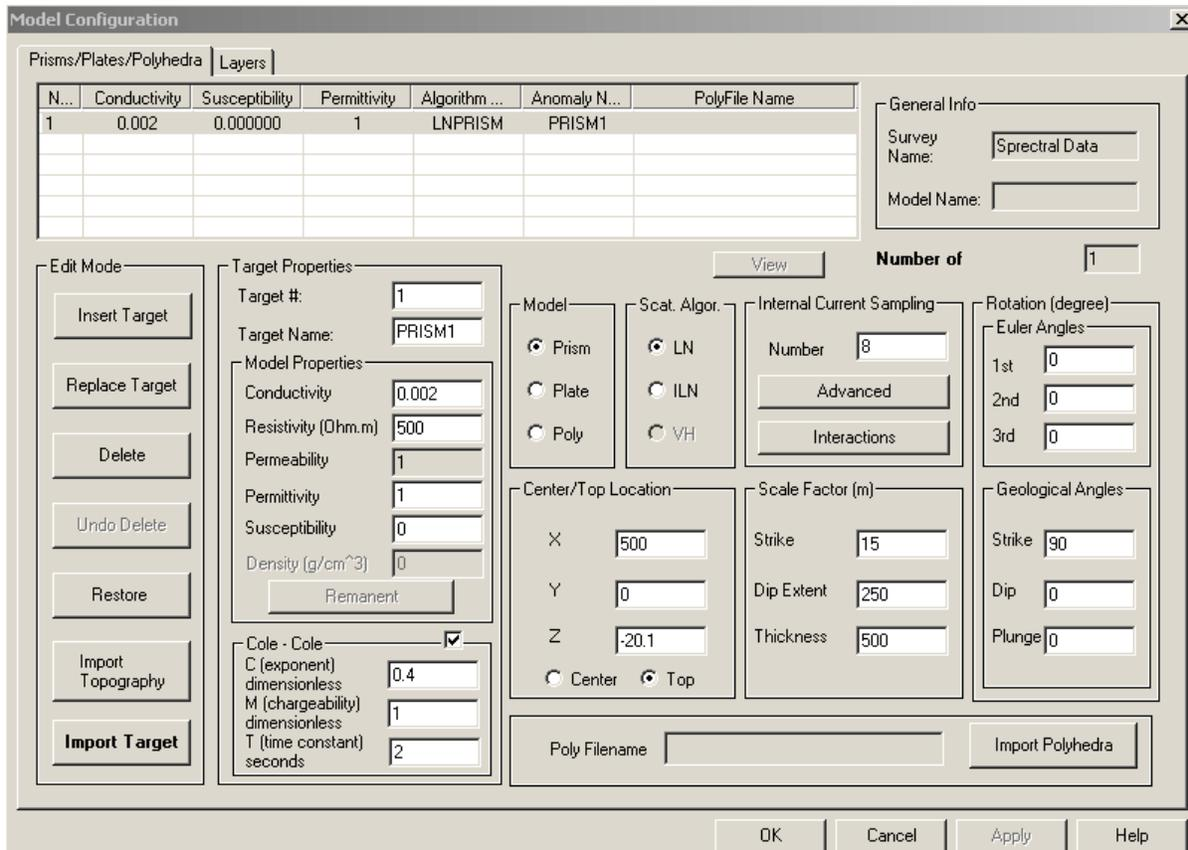

Fig. 8
- Click **Insert Target** in the **Edit Mode** section. Your target will be added to the *List of Targets*, the table in the upper left-hand corner of the tab, Fig. 8.
- Click the **Import Target** button in the bottom of the **Edit Mode** section, Fig. 8. The **Import Model** dialog appears
As you return to the **Prisms/Plates/Polyhedra** tab, Fig. 8, you find the imported model added to the *List of Targets*.
This will return you to the **Prisms/Plates/Polyhedra** tab, Fig. 8. In the **Poly Filename** field, you will see the newly created .pol file
If your model is a prism or polyhedron, the **Internal Current Sampling** section, Fig. 8, will be enabled suggesting 100 points as a default value for LNPRISM. You can change it as needed, with a maximum of 600, which is often more than enough. The **Advanced** button allows for a more accurate setting:
- Select the target you want to replace in the *List of Targets*, Fig. 8